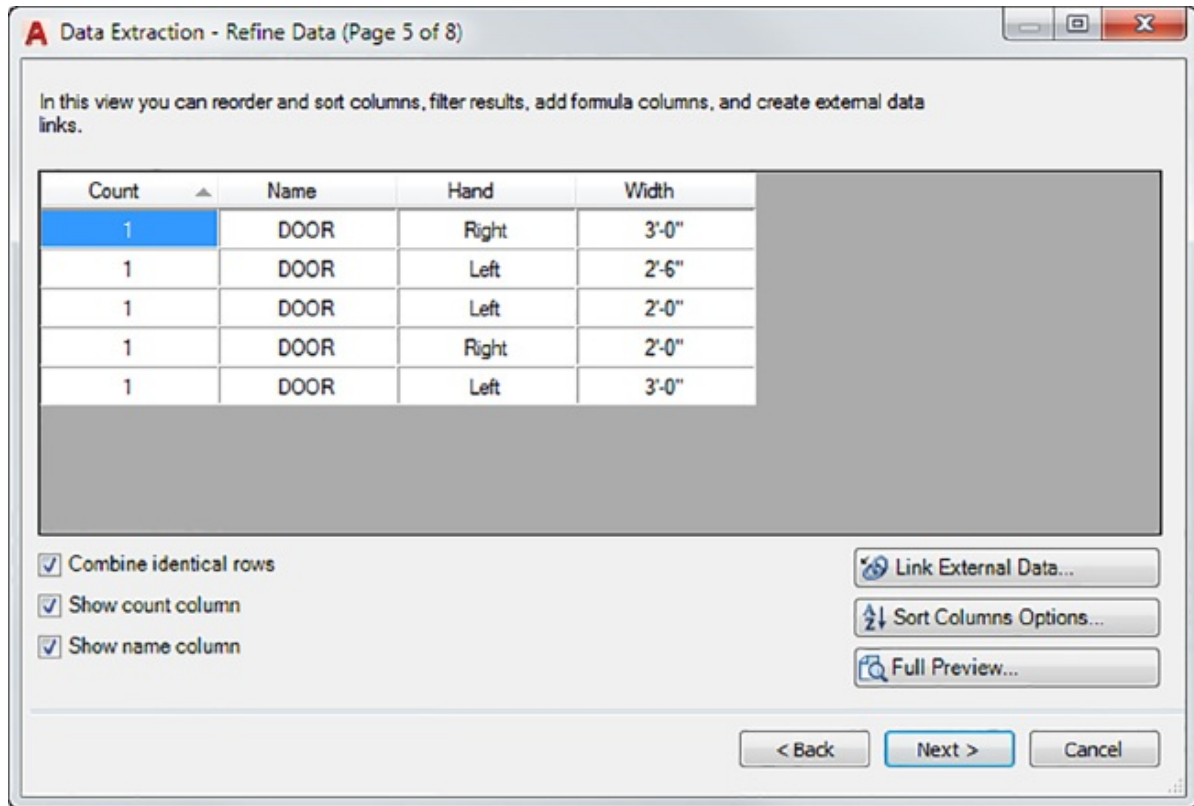

FIGURE 17.38 The resulting table to be extracted, as shown on the Refine Data screen of the Data Extraction Wizard
8. Click Next. On the Refine Data page, you see the data that will be exported to a spreadsheet file or a table (see Figure 17.38).
As you can see in Figure 17.38, a list is generated that shows each door in the drawing with its size and handedness. You could use this data as part of a door schedule.